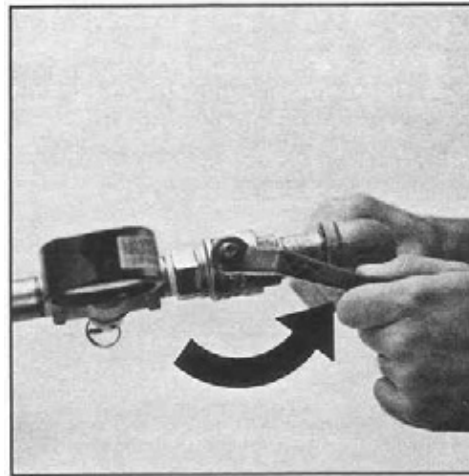

Figure 11: SLOWLY OPEN CONTROL VALVE
3. Open the outlet valve on the air compressor See Figure 11.